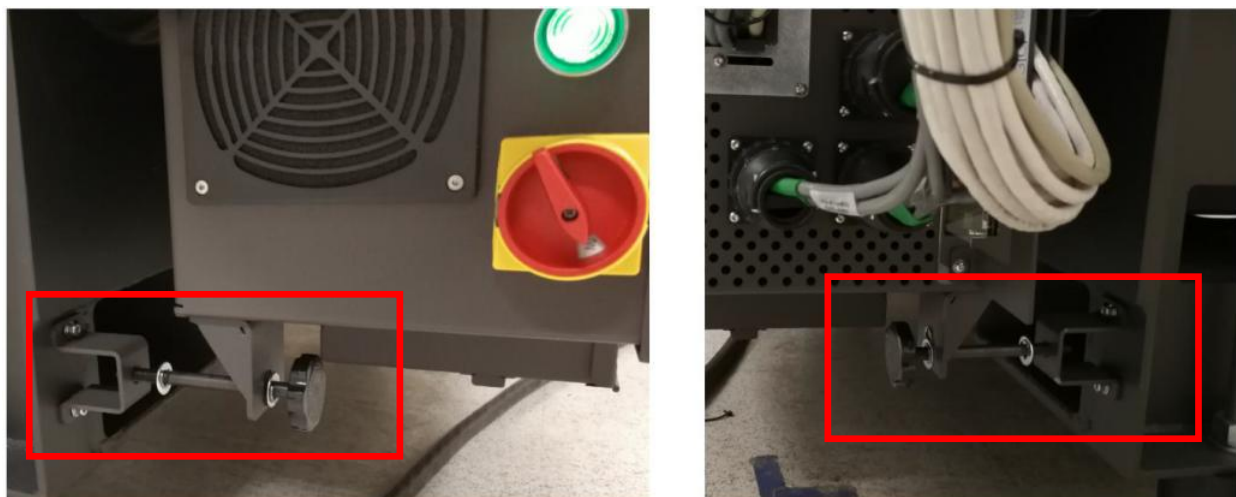

Figure 2 Anchors Release
3. Gently loosen Both Anchors as below Figure 2